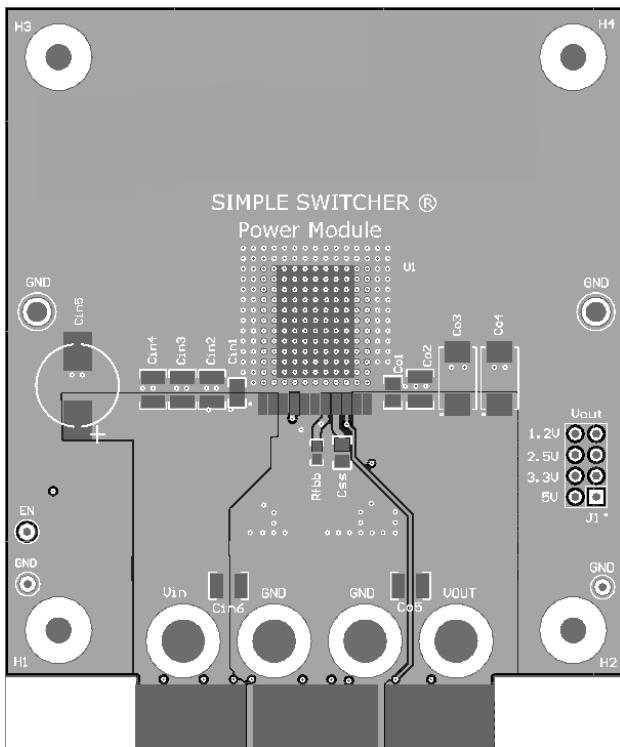

**Figure 53. Critical Current Loops to Minimize**
From an EMI reduction standpoint, it is imperative to minimize the high  $di/dt$  paths during PCB layout as shown in Figure 53. The high current loops that do not overlap have high  $di/dt$  content that will cause observable high frequency noise on the output pin if the input capacitor ( $C_{IN}$ ) is placed at a distance away from the LMZ13610. Therefore place  $C_{IN}$  as close as possible to the LMZ13610 VIN and PGND exposed pad. This will minimize the high  $di/dt$  area and reduce radiated EMI. Additionally, grounding for both the input and output capacitor must consist of a localized top side plane that connects to the PGND exposed pad (EP).